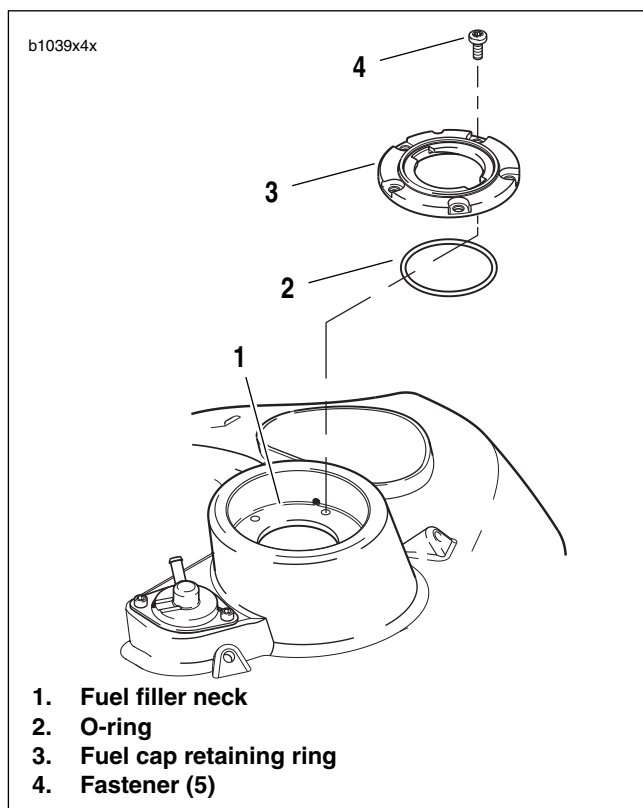

Figure 4-97. Fuel Cap Retaining Ring
3. See Figure 4-97. Remove fasteners (4) securing fuel cap retaining ring (3) to fuel filler neck (1).
4. Remove fuel cap retaining ring and o-ring (2). Discard o-ring.